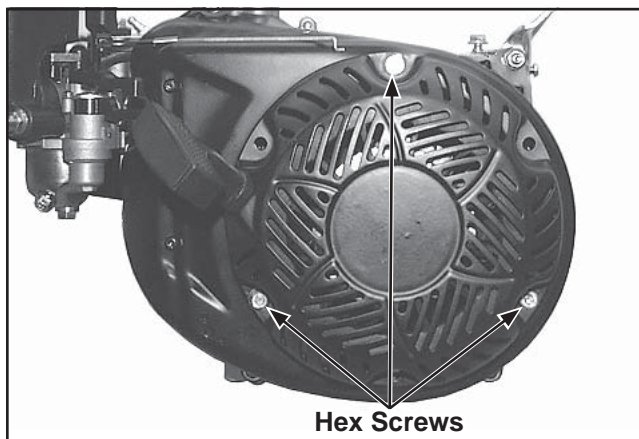

Figure 11-73. Install Retractable Starter.
1. Install the retractable starter on the blower housing using three hex flange screws. Finger tighten the mounting screws only. See Figure 11-73.